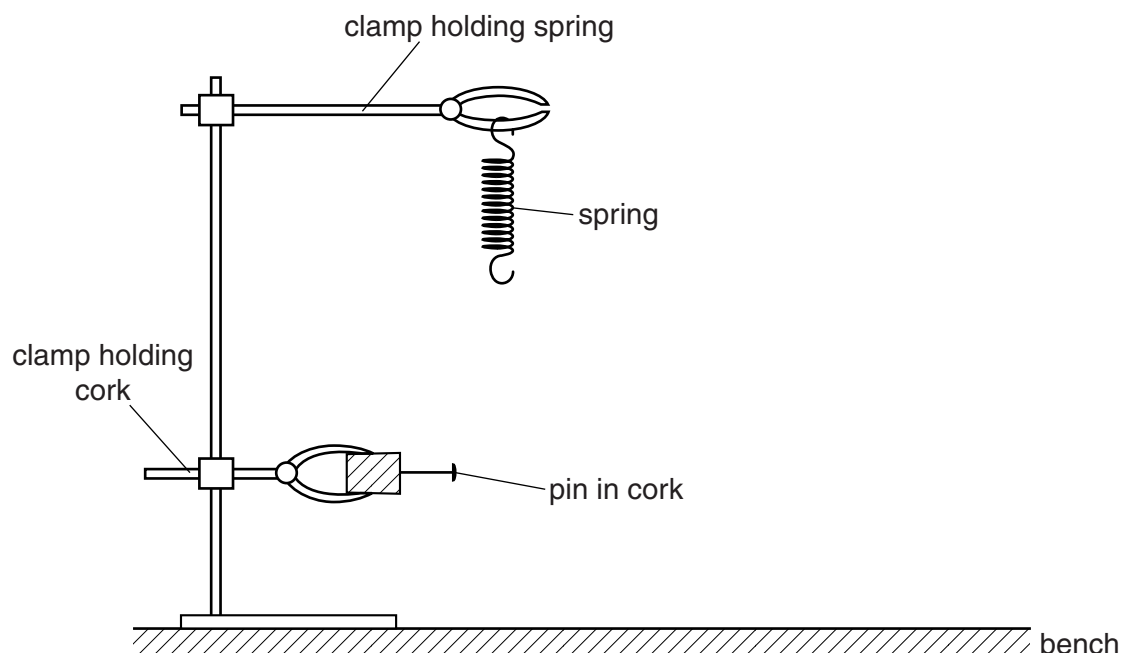

Fig. 1.1
3. Set up the apparatus as shown in Fig. 1.1, with no mass attached to the spring. The pin should be positioned so that when a mass is attached to the spring, the pin is close to the mass.
Check that the apparatus is set up ready for the next candidate, as shown in Fig. 1.1. Replace the spring if necessary.